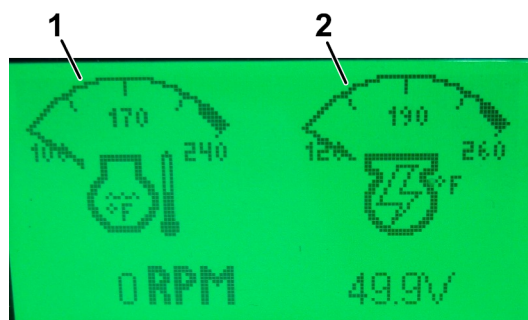

Figure 4
- Use the InfoCenter to monitor both engine coolant and generator temperatures (Figure 4).